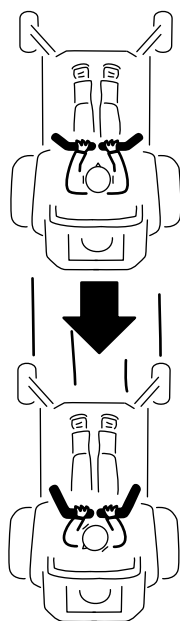

Figure 23
- 2. To go backward, slowly pull the motion-control levers rearward (Figure 23).